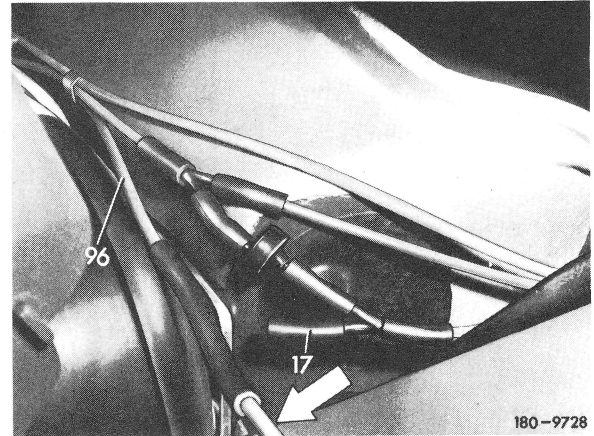

Fig. 6
Pull yellow line (96) out of connection (17). Connect tester (refer to arrow) to yellow line (96) and evacuate (Fig. 6).